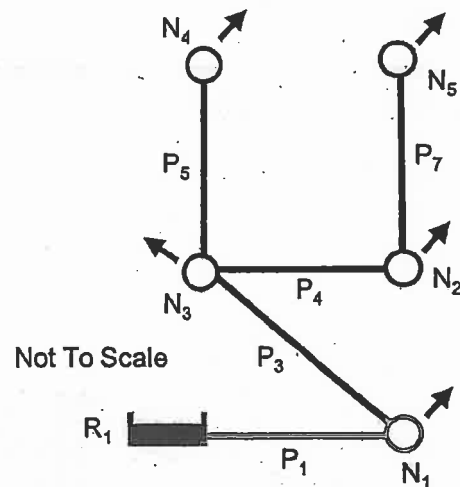

Figure 1. Branched network layout.
- /20 1. A branched pipe network conveys water from reservoir R1 with constant water level of 60 m to 5 nodes, all at elevation of 10 m (Figure 1). All pipes are made of PVC material and have a Hazen-Williams 'C' factor of 141, an internal diameter of 406 mm, and a length of 250 m. Nodes 1 through 5 have a maximum day demand of 2 L/s. Node 5 also carries a fire flow of 33 L/s.